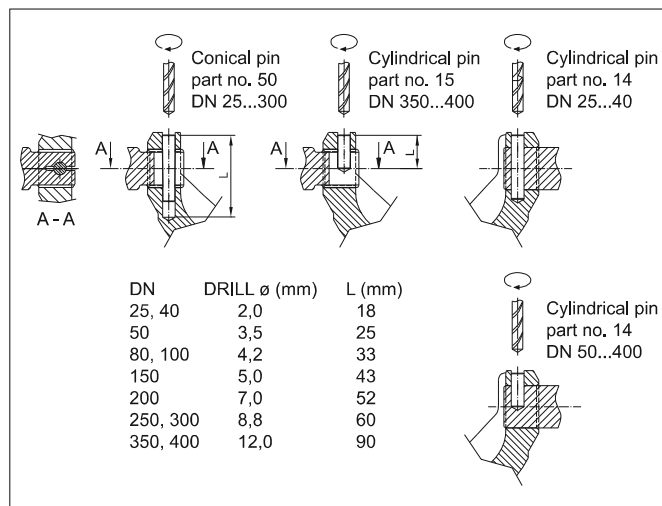
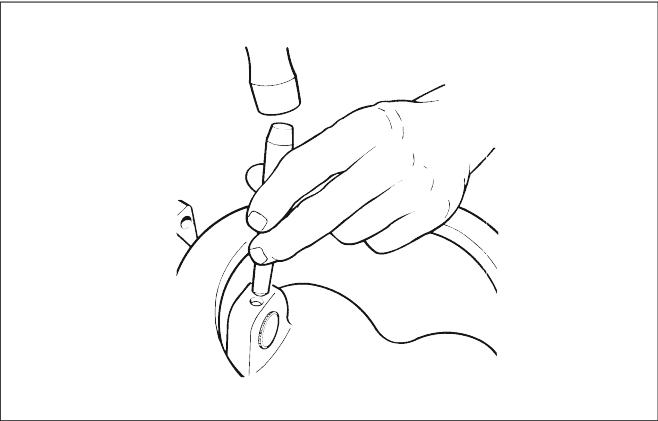

Fig. 23 Drilling the pin, R1L and R2_S
Fig. 26 Locking a pin
- ❑ Remove the pin lockings either by grinding or using a spindle. Detach the pins (14 and 15) by drilling, Fig. 23. Be careful not to damage the original bores. Note! The pins and the drive shaft have been secured by welding in the titanium version and in the acid-resistant high-consistency version S.
- ❑ Please note the depth of the hole (L) for the conical pin (Fig. 23). Put the pins (14, 50) in their places and lock them (Fig. 26). Both pins are locked with TIG welding in the high-consistency acid-resistant version and in the standard and high-consistency titanium versions. Moreover, the drive shaft is welded to the segment in the high-consistency versions. Contact the manufacturer for more information.